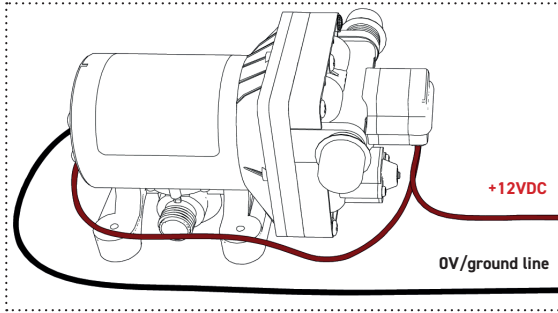

Fig. 9: Electrical connection
2. Connect the two connecting cables of the pump to the power supply using the materials provided as follows (Fig. 9 +10):